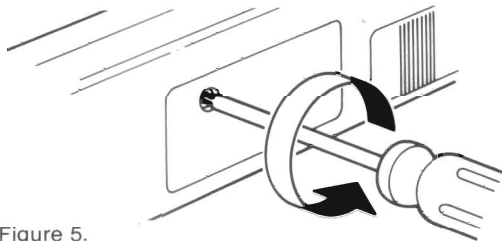

Figure 5.
3. Remove the single screw on the side of the meter. (Figure 5)